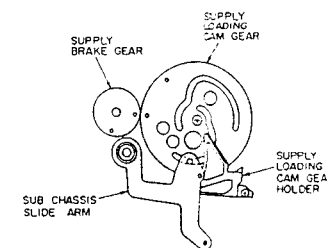

Fig. 3-4
- 5) Install the pressure roller drive arm and sub chassis slide arm as shown in the figure. (See Fig. 3-4)